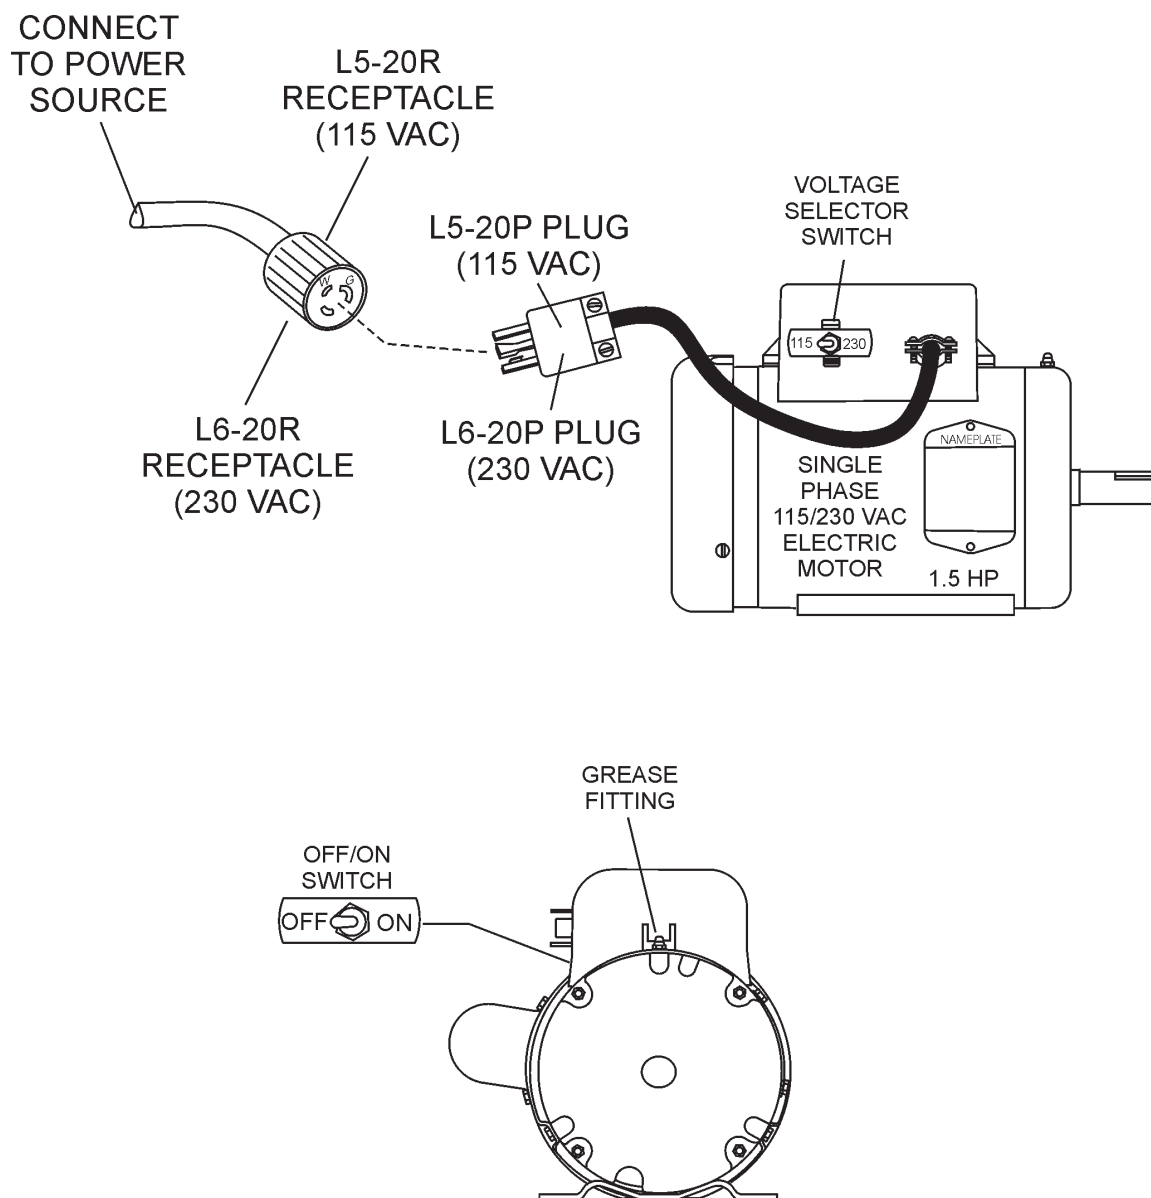

Figure 7. Single Phase Electric Motor with 12 inch Pigtail Cable
4. **Important!**, when changing the input voltage to the electric motor from 115 to 230 VAC, the **plug** on the electric motor power cord must also be changed. See Table 6 and Figure 7.